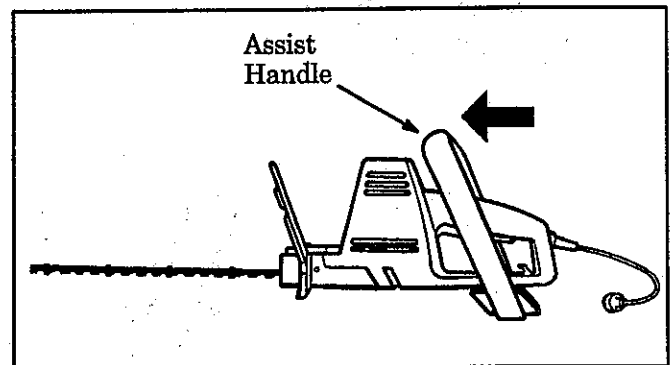

Figure 2
1. Place the assist handle on the unit as shown in Figure 2.